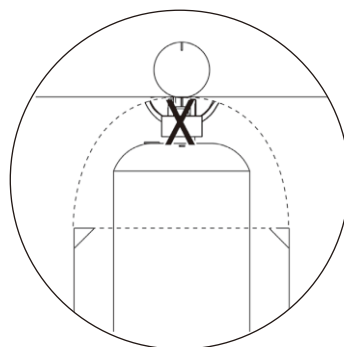

Figure 6
4. Please refer to diagram for proper installation (See Figure 6).
3. Apply the leak detection check solution on the “X” location as shown (See Figure 6).